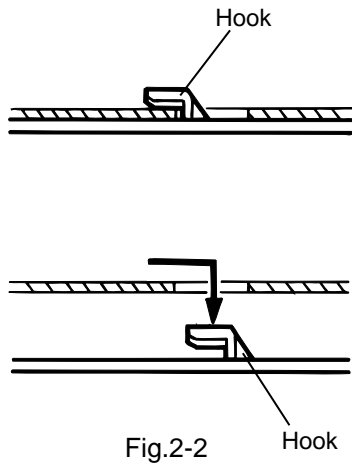

Fig.2-2
4. Slide the right and left covers backward and unhook the two hooks **a** in the lower part of the side covers as shown in Fig.2-2.